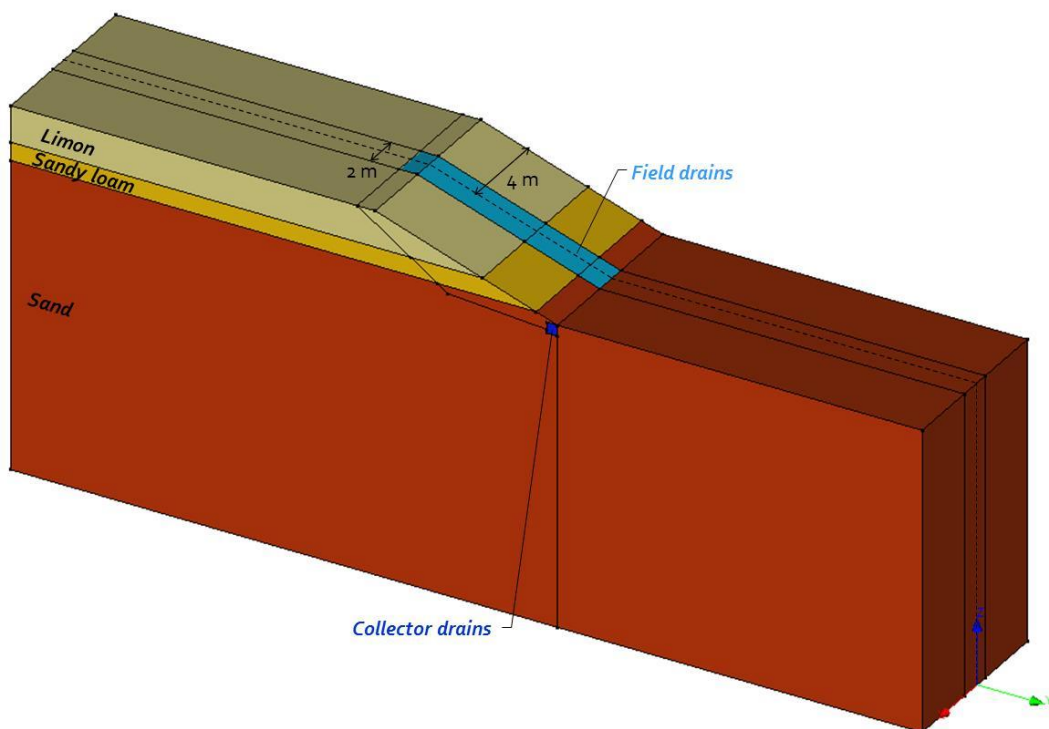

Figure 1: Model dimension in 3D view
- Define the coordinates of the construction points (see Figure 1).
- Select the volume bodies associated to "Field drains" (see Figure 1),
- Repeat the operation in order to group the other bodies associated to "Collector drains", "Limon", "Sandy loam", and "Sand" (see Figure 1).